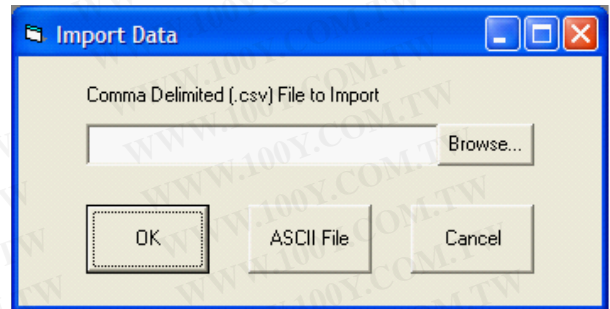

Figure 9. Import Data Dialog Box
2. Enter the file path in the dialog box shown in Figure 9, or click the **Browse...** button to search for the file. Click **OK**.
2. Click the **ASCII File** button shown in Figure 9.